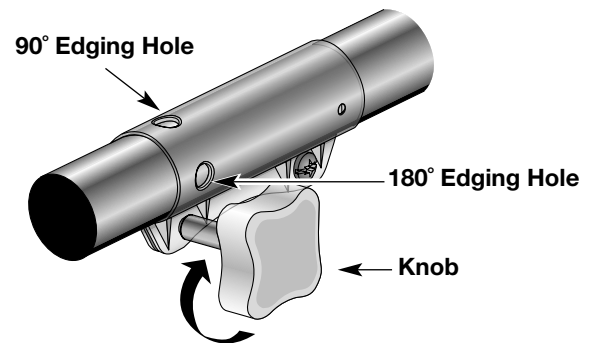

Fig. 26
3. Turn the knob clockwise to tighten (Fig. 26).
For edging when using the line head cutting attachment with Click-Link® models, lock the release button of the cutting attachment into the **90° edging hole** or the **180° edging hole**(Fig. 26).